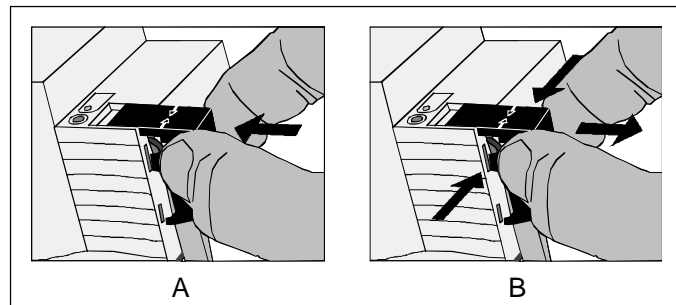

Fig. 2: Installing / removing the protective cap
- To install the cap: Slide the cap over the bus connecting terminal until it snaps in place (cf. Fig. 2-A).
- To remove the cap: Remove the cap by pressing the sides slightly and by pulling it out to the front (cf. Fig. 2-B).